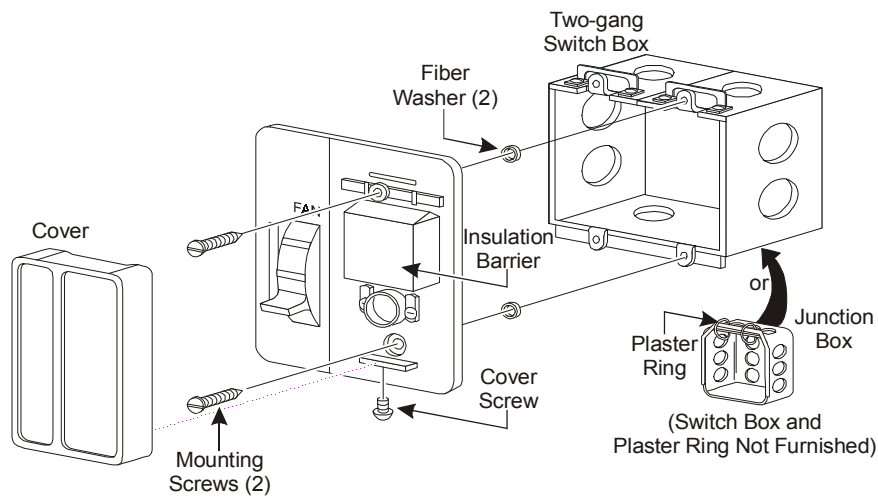

Figure 3: Mounting the T28 to an Outlet Box, in. (mm)
1. Install the switch box and plaster ring (when required). See Figure 3.
2. Remove the cooling anticipator resistor to prevent over-anticipation on 208/240 VAC installations. Carefully clip the left-hand resistor leads with diagonal cutters. See Figure 3.
6. Carefully remove the contact protector (insulation barrier). See Figure 3. Move the temperature setting lever from Cool to Warm to be sure the contact arm is free.